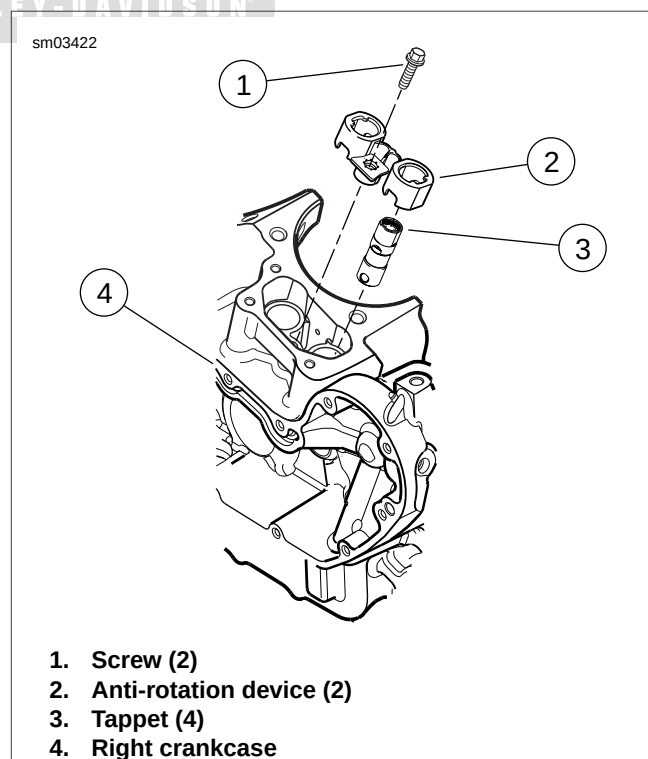

Figure 3-103. Tappet Installation
1. See Figure 3-103. Rotate engine so that both tappets (3) from the cylinder being serviced will be installed on the base circle (lowest position) of the cam.
3. Insert both tappets (intake and exhaust) into anti-rotation device (2) with flats at upper end of each tappet positioned so they will be facing front and rear when assembly is installed in engine, and the tappet oil feed hole is facing toward the gear cover.
4. Install anti-rotation device with tappets into bore in right crankcase (4). Secure with screw (1). Tighten to 80-110 **in-lbs** (9.0-12.4 Nm).